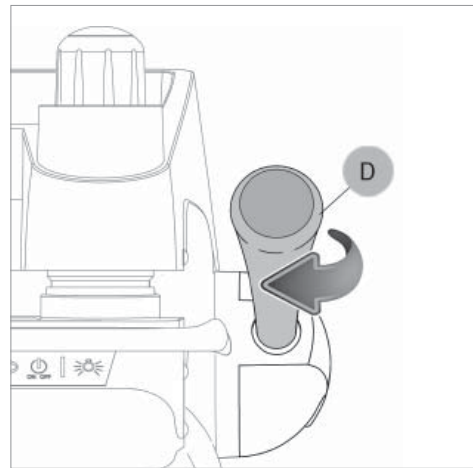

Fig. 77
- 1) Lower the vertical carriage with the lever (D (Fig. 77)).
- 3) When the pins are aligned, raise them slightly with the lever (D) so that they are not in contact with the key surface.
- 4) Turn the lever (D) clockwise to lock the height of the vertical carriage.
- 5) Move the clamp carriage with the lever (C) and take the pins into contact with several points on the left-hand jaw (also on the side of Stop 0). If the calibration board shows a green light the left-hand jaws are aligned.